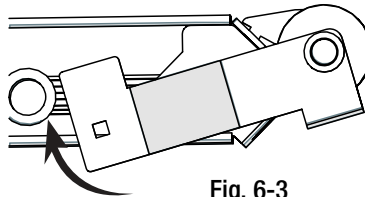

Fig. 6-3
- Once the tab is secured in the mounting slot give the roller assembly a slight clockwise turn as shown in Fig 6-3. It may be necessary to pull the bracket out some to fit over the edges of the ladder tracks.